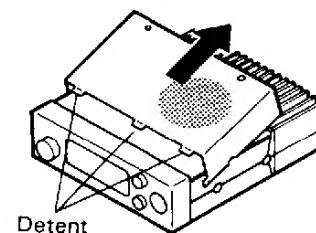

Fig. 1
2. Gently remove the top cover. (Fig. 1)
1. Remove the 2 screws securing the Top cover. Gently remove the top cover. (Fig. 1)